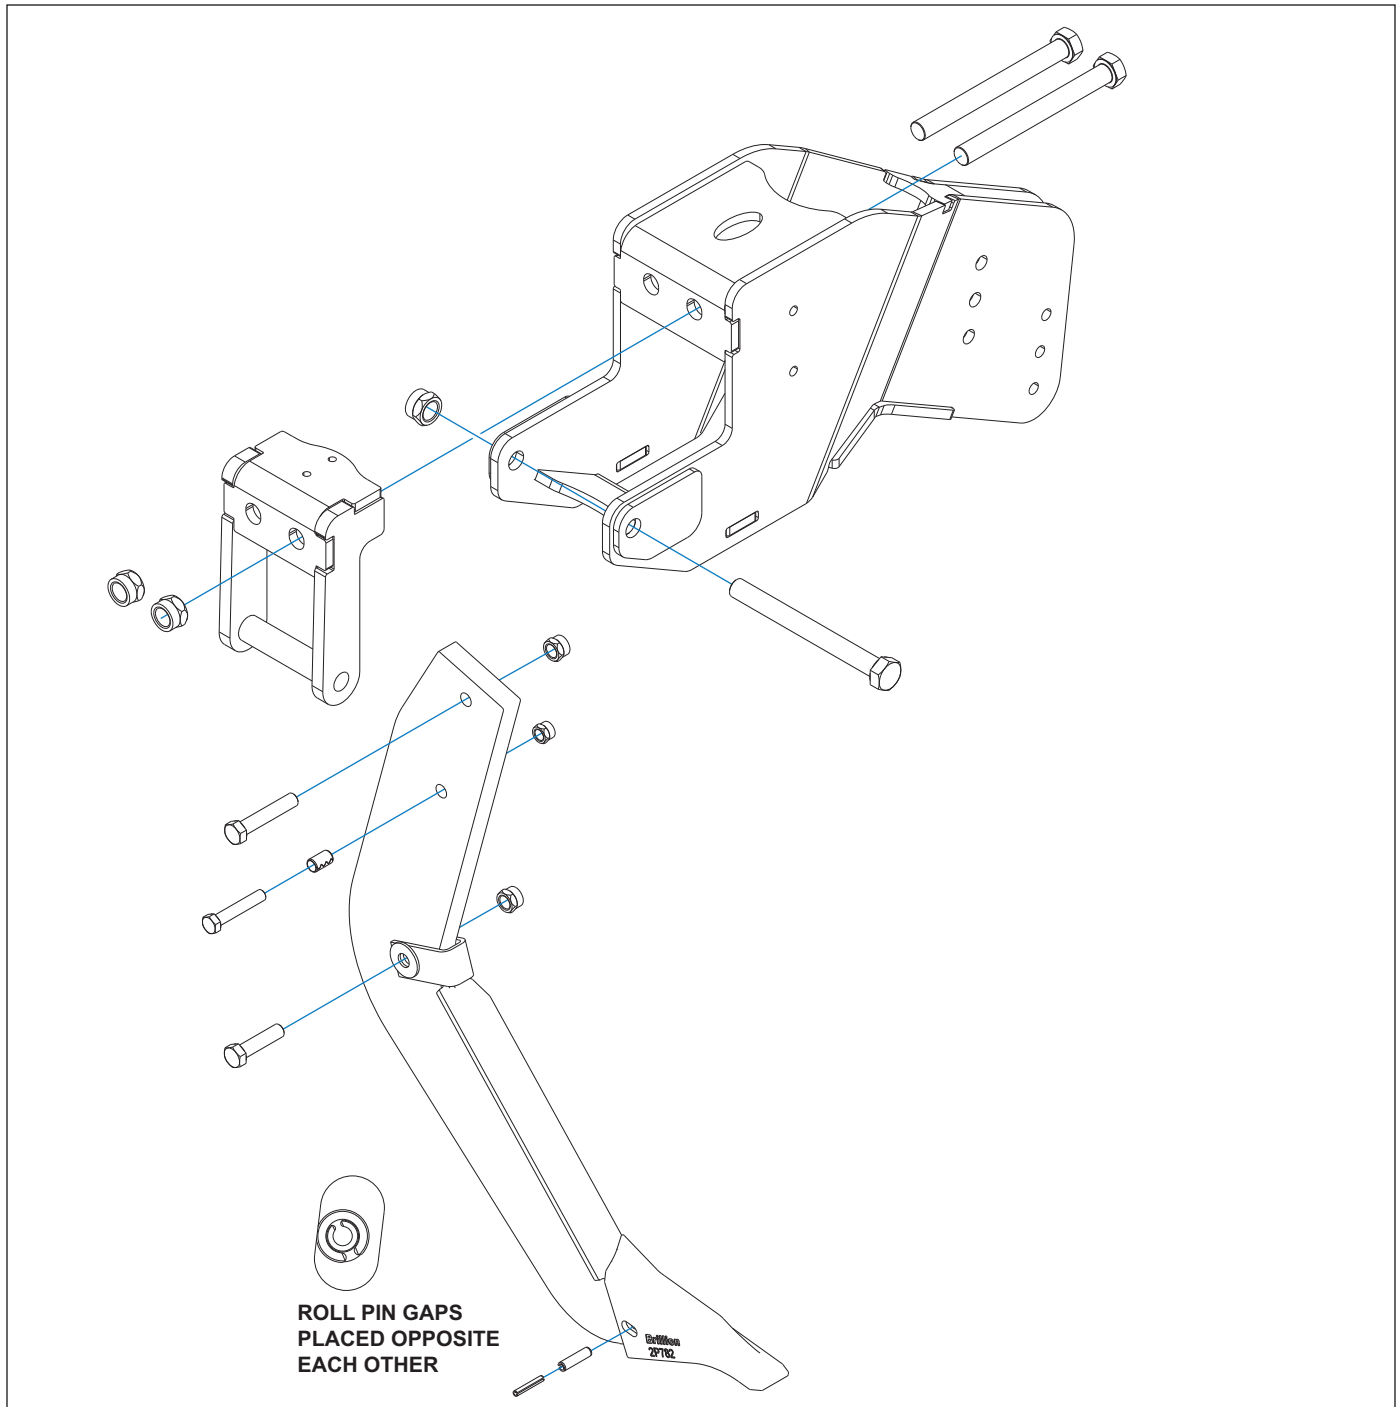

Figure 3-4: RSB Clamp and Straight Leg Shank Assembly
2. Attach wearstrip to straight leg shank using wearstrip bracket, 3/4-10 x 3 hex head cap screw, and 3/4-10 hex lock nut. (*See Figures 3-4*)